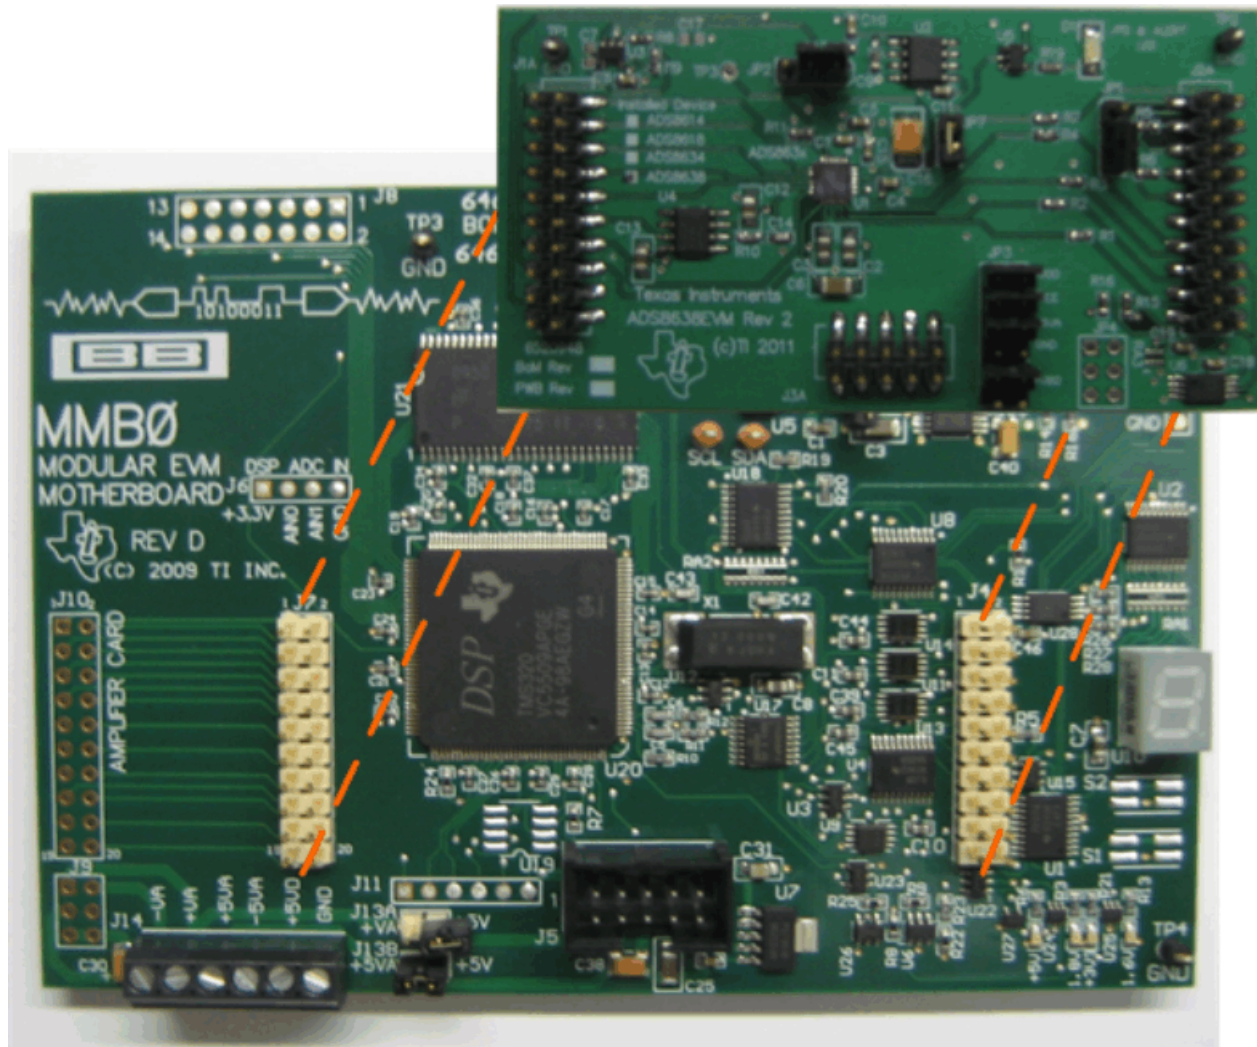

Figure 5. Connecting ADS8638EVM to MMB0
Step 3. Plug the ADS8638EVM into the MMB0 as Figure 5 illustrates.